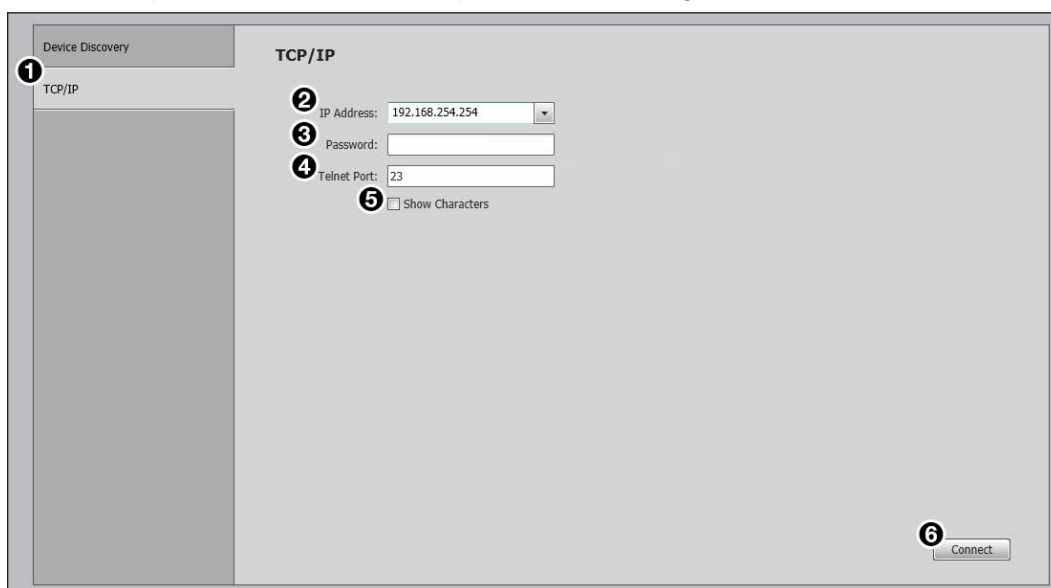

Figure 36. TCP/IP Panel
1. Click the **TCP / IP** tab (see figure 36, **1**).